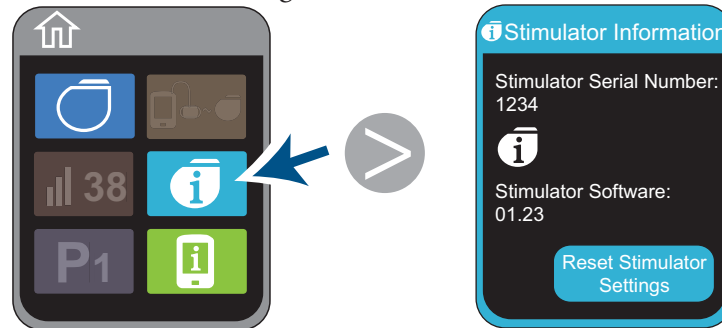

Figure 27. Displaying the Stimulator Information screen
2. Tap  on the Home screen (Figure 27). The Stimulator Information screen appears.